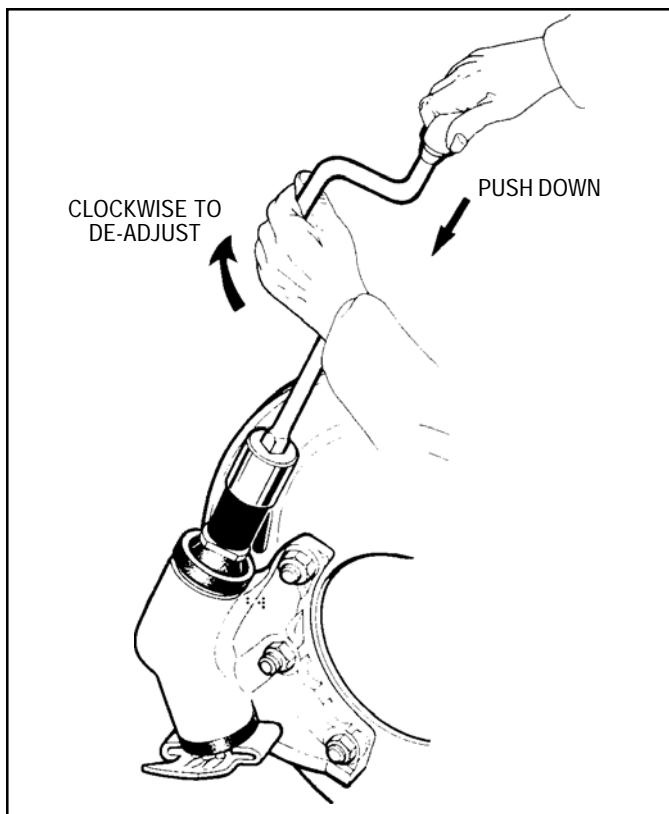

FIGURE 14 - DE-ADJUSTING ADJUSTER MECHANISM
9. To rapidly un-adjust the adjusters, fit a piece of 3/4 inch (19,05 mm) heater hose inside a suitable 12 point socket, *Figure 14*, on either a speedbrace or ratchet drive. Place the heater hose over the piston neck and fully wind back the adjusters as shown in *Figure 14*. A load must be applied to the wheel cylinder piston while winding back the adjusters.